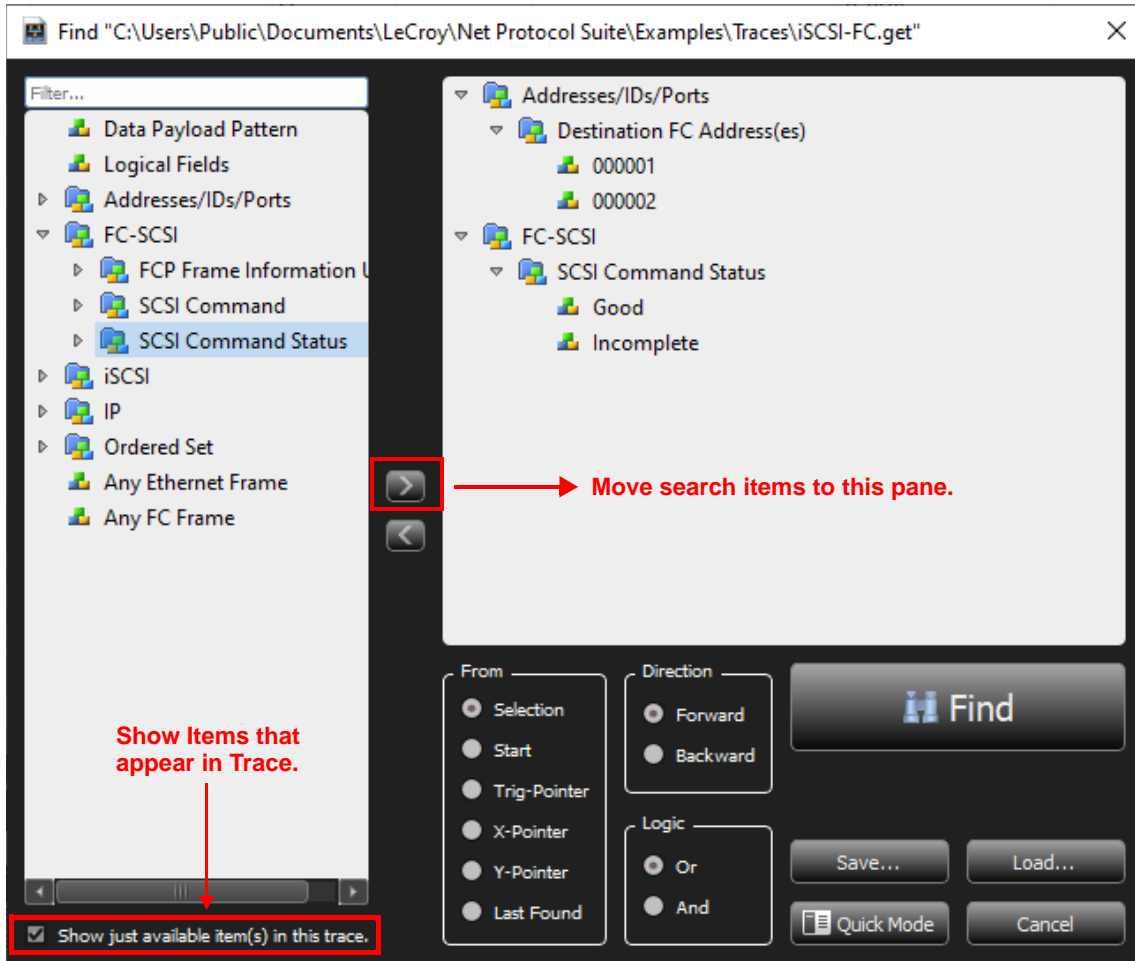

Figure 5.142: Advanced Find Window
2. Highlight an item in the left pane, then click the left arrow to move it to the search pane (Figure 5.142).